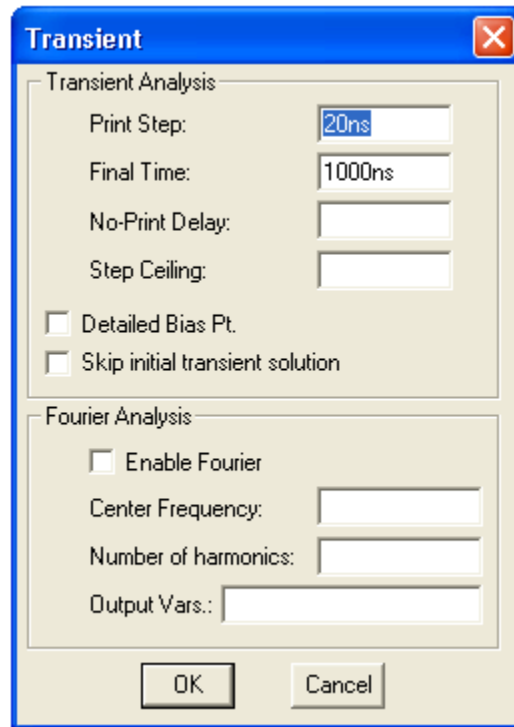

Figure 8
- Two very important parameters in the transient analysis are (see Figure8):